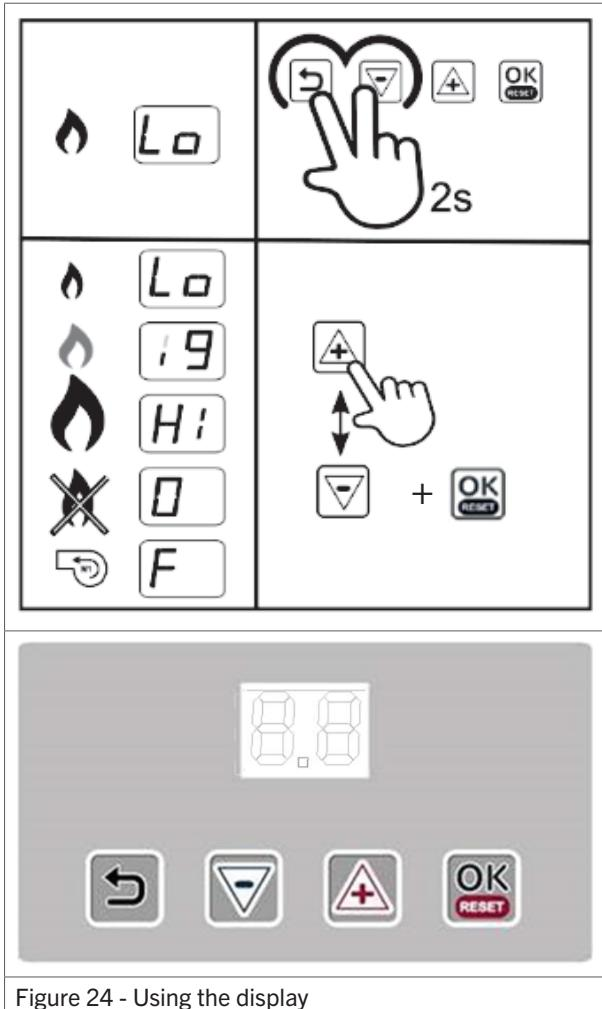

Figure 24 - Using the display
1. Press and hold the **Return** and **(-)** button for a few seconds (figure 24). The display will alternate between Lo and St. This means the heater will start up in Low fire.
2. Press the **(+)** and **(-)** buttons to toggle between Low and High fire (figure 24).